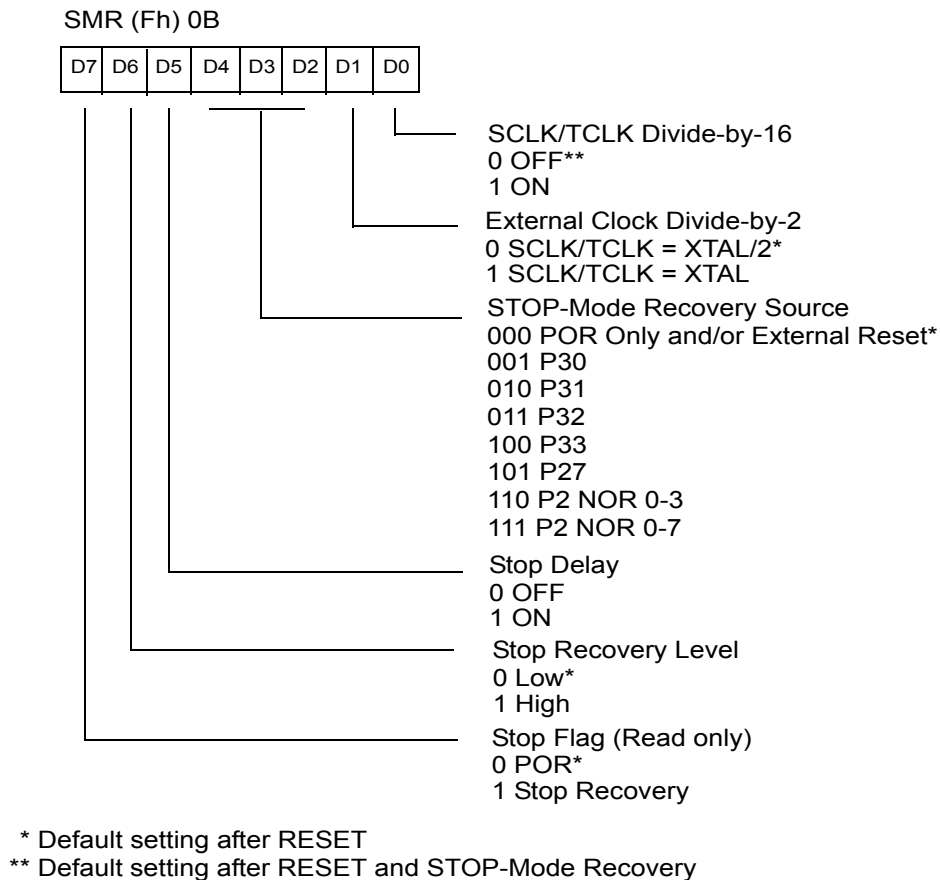

**Figure 31. Stop Mode Recovery Register (Write-Only Except Bit D7, Which Is Read-Only)**
**Stop-Mode Recovery Register (SMR).** This register selects the clock divide value and determines the mode of Stop Mode Recovery (Figure 31). All bits are Write Only except bit 7 which is a Read Only. Bit 7 is a flag bit that is hardware set on the condition of STOP Recovery and reset by a power-on cycle. Bit 6 controls whether a low or high level is required from the recovery source. Bit 5 controls the reset delay after recovery. Bits 2, 3, and 4 of the SMR register specify the Stop Mode Recovery Source. The SMR is located in Bank F of the Expanded Register File at address 0BH.